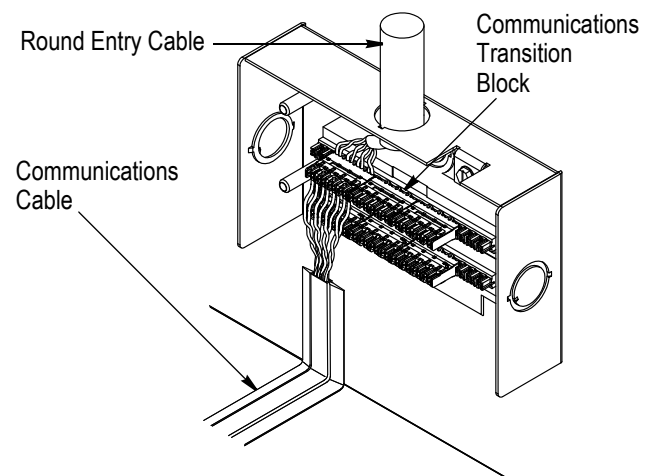

Figure 4
Install the communications transition block and communications cable according to the instructions included with the product. The bonding clips are not required to be used. Refer to Figure 4.
- Modified Figure 4